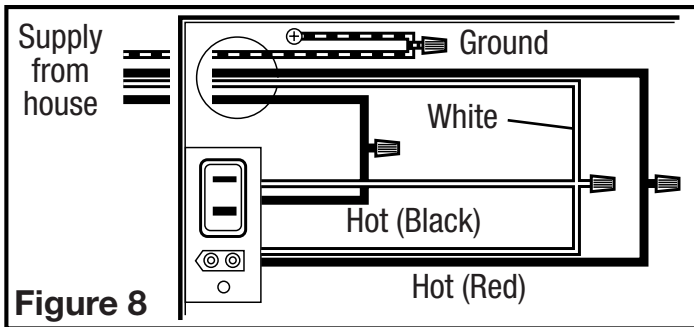

Figure 8
- 1a. From where you have access to inside the fan's junction box, connect the one white wire from the house to both the white wire from the fan's light receptacle and the white wire from the fan's exhaust receptacle. Connect the first black wire from the wall switch to the red wire from the fan's light receptacle. Connect the second black wire from the switch to the fan's exhaust receptacle. Connect the ground wire from the house to the green wire from the fan's grounding screw (Figure 8). Use approved methods for all connections.